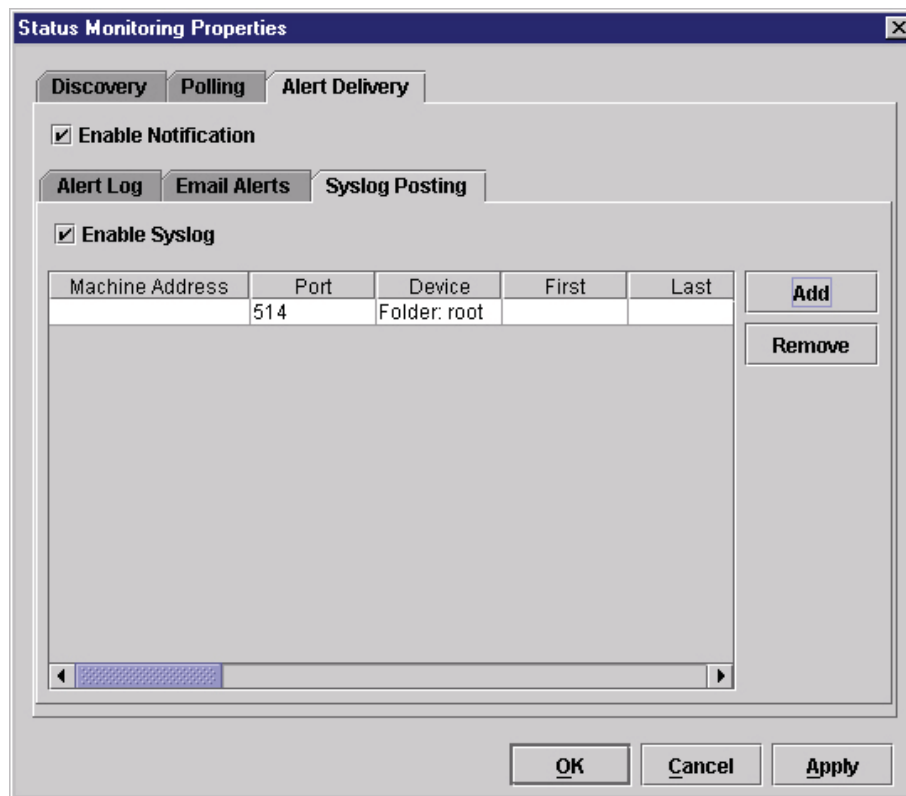

Figure 35 Status Monitoring Properties: Alert Delivery Tab – Syslog posting Sub-Tab
- Syslog Posting:** Used in a UNIX operating system, it allows PNE to log alerts to a file located in the PNE installation directory. To log alerts, check the **Enable Syslog** check box, then click **Add** (see Figure 35). A task item adds to the log list. In the task item, specify the following as applicable, then click **Apply** or **OK**.